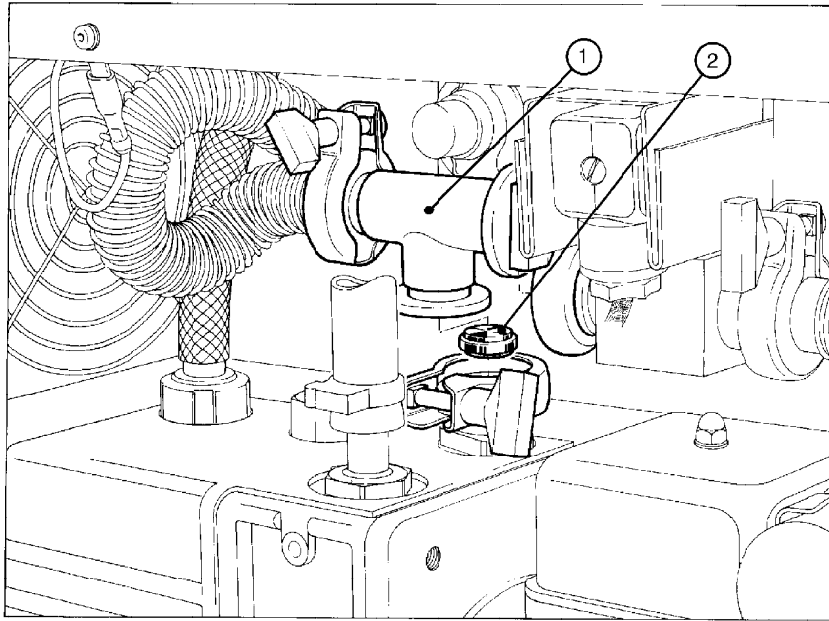

Figure 3.1 - Front cover removed showing rotary pump blank
Rotary pump blank (refer to Figure 3.1)
10. To blank off the internal rotary pump roughing connection, it is necessary to replace the standard 'O' ring carrier with a blank carrier. Remove the front cover of the leak detector and locate the T piece (Figure 3.1,item 1) connection on the top of the internal rotary pump. Disconnect the flexible hose from the left hand side of the T piece and remove the KF10 'O' ring and carrier. Insert the blank carrier and 'O' ring in place to blank off the rotary pump and re-connect the flexible hose to the T piece.
Key to Figure 3.1